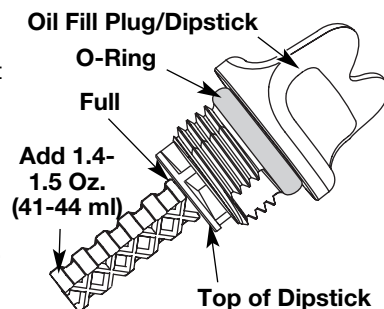

Fig. 22
5. Remove the oil fill plug/dipstick and check the oil level. Oil should be up to the top of the dipstick (Fig. 22).